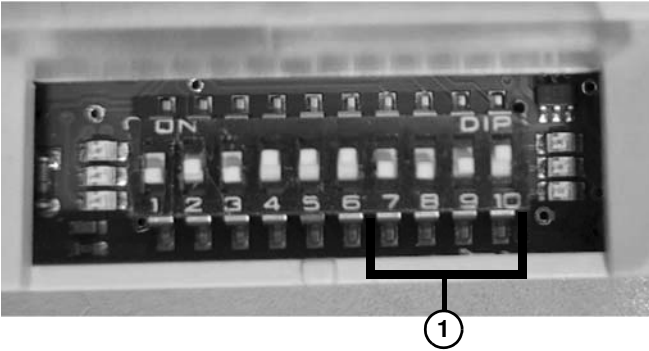

Figure 28
- Acceleration/Deceleration: DIP Switches 7-10 (**Figure 28, item 1**), and switch settings chart **Figure 29**.